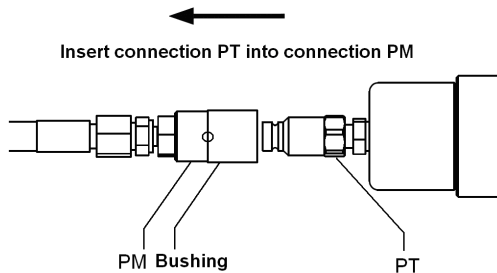

Fig. 5. Work with quick couplers.
- Pull the bushing in the direction shown by an arrow in Fig. 5 until the quick couplers disconnect.